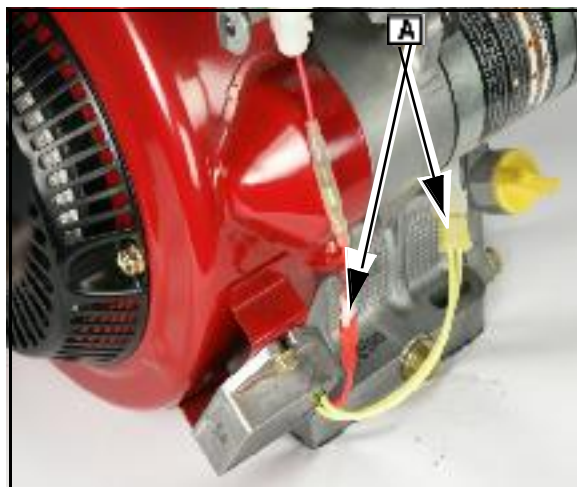

Fig. 2
**NOTE:** Disconnect the wires ([A] Fig. 2) for the voltage regulator and key switch (if installed).